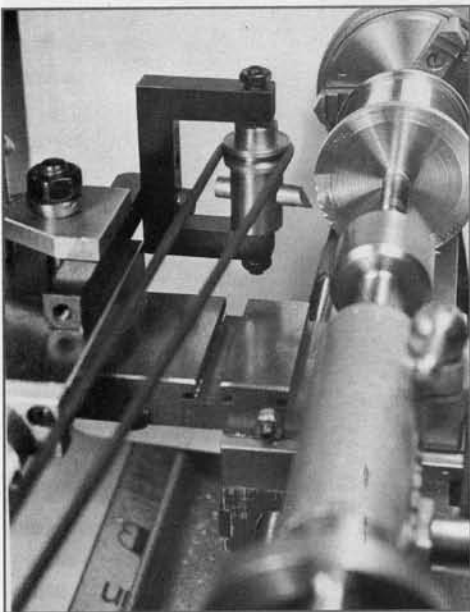
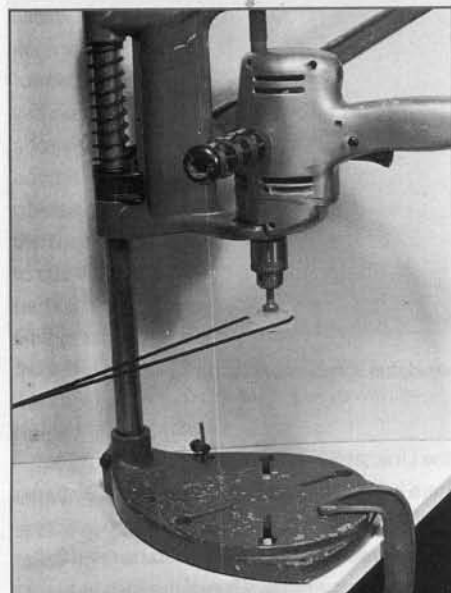

Fig. 4 Using a simple cutter frame and a home-made cutter to cut ratchet teeth.
Fig. 5 A simple method of driving the spindle in the cutter frame shown in the photo above
Another option for cutting clock wheels is the simple cutter frame shown in Fig. 4. Here the cutter frame (3) is clamped in the lathe tool post. A simple home-made fly cutter is being used to cut the ratchet teeth on a clock barrel. The simple method of driving the cutter is illustrated in Fig. 5 where a Black and Decker